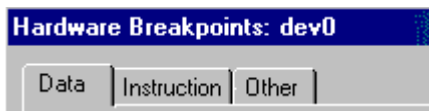

Figure 1-3. Hardware Breakpoints Dialog Box
2. The **Hardware Breakpoints** dialog box appears. The dialog box has three tabbed pages: **Data**, **Instruction**, and **Other** (Figure 1-3).